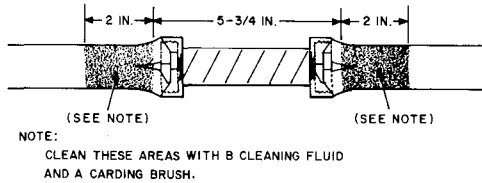

Fig. 13—Cleaning of Sheath
- 4.02 Using B cleaning fluid, clean the cable sheath on each side of the sheath opening as shown in Fig. 13.
- 4.03 With a carding brush, scuff the areas cleaned with B cleaning fluid (Fig. 13).